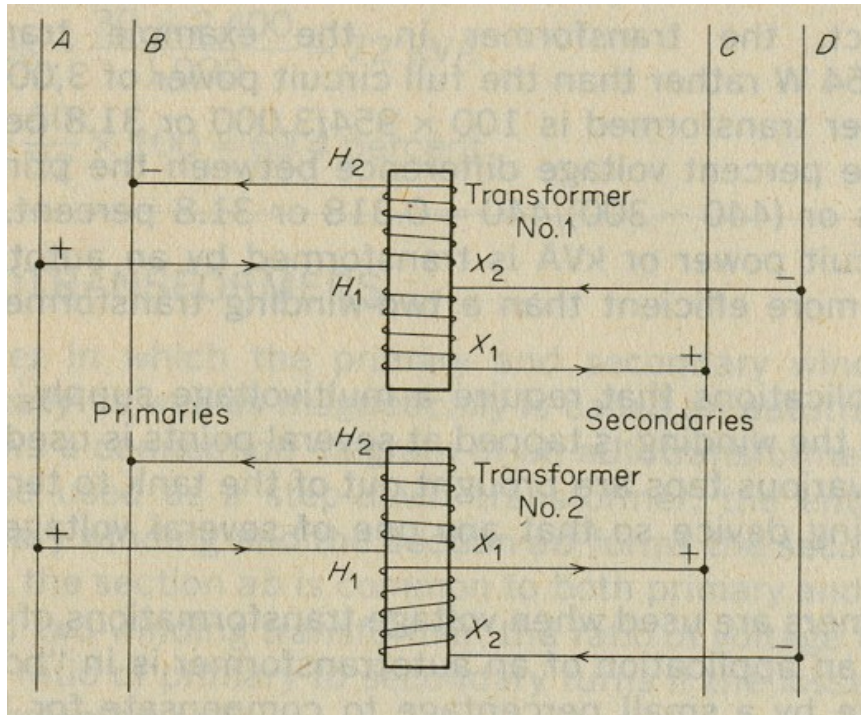

Figure 2: Two transformers connected for parallel operation
Suppose we have two transformers T1 & T2, having terminals H1, H2 (HV) & X1, X2(LV) as shown in figure 2. The transformers in fig 2 are so marked that if the H1's are connected to one primary line and the H2's to the other primary line then the X1's should be connected to the same secondary line and X2's to the remaining secondary line.
3. Now connect the two transformers according to the figure 2.